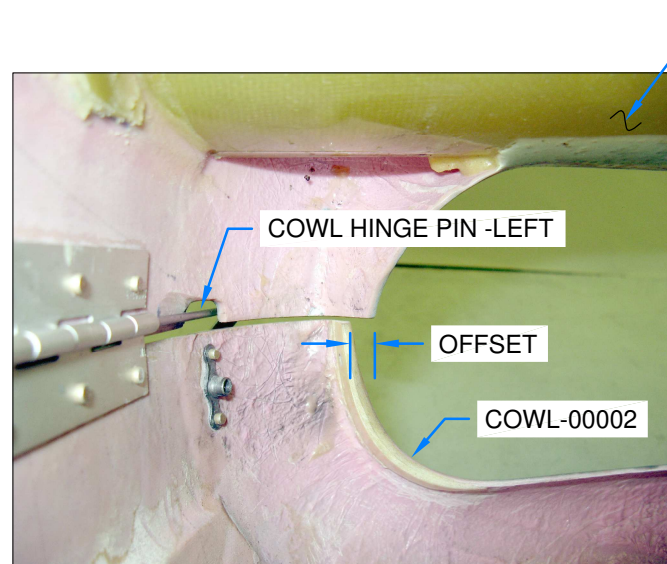

FIGURE 3: COWL MISALIGNMENT - LEFT
Step 3: Become familiar with the misalignment between the top cowl and bottom cowl at the outboard edges of the air inlets. Measure and record the offset between the top and bottom cowls. See Figure 3 and Figure 4.